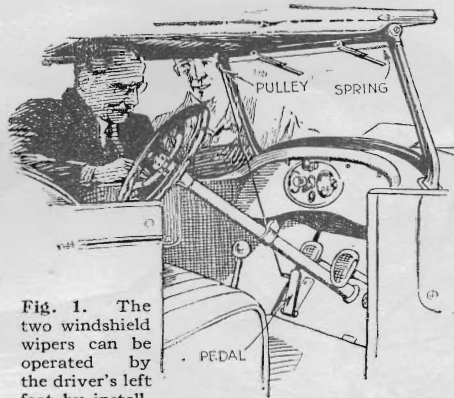

Fig. 1. The two windshield wipers can be operated by the driver's left foot by installing a simple hinged pedal and pulley next the clutch pedal of your car
**I**N STEADY driving, the motorist's left foot is used only to work the clutch occasionally and this idle foot can be used very well to operate the windshield wiper by the arrangement shown in Fig. 1. Two ordinary hand-operated windshield wipers are clamped on the windshield with a coil spring at the right attached to the arm of the right-hand wiper. Then a simple pedal is placed on the floorboard next to the clutch pedal. This pedal can be made of a small piece of wood hinged to the floorboard.